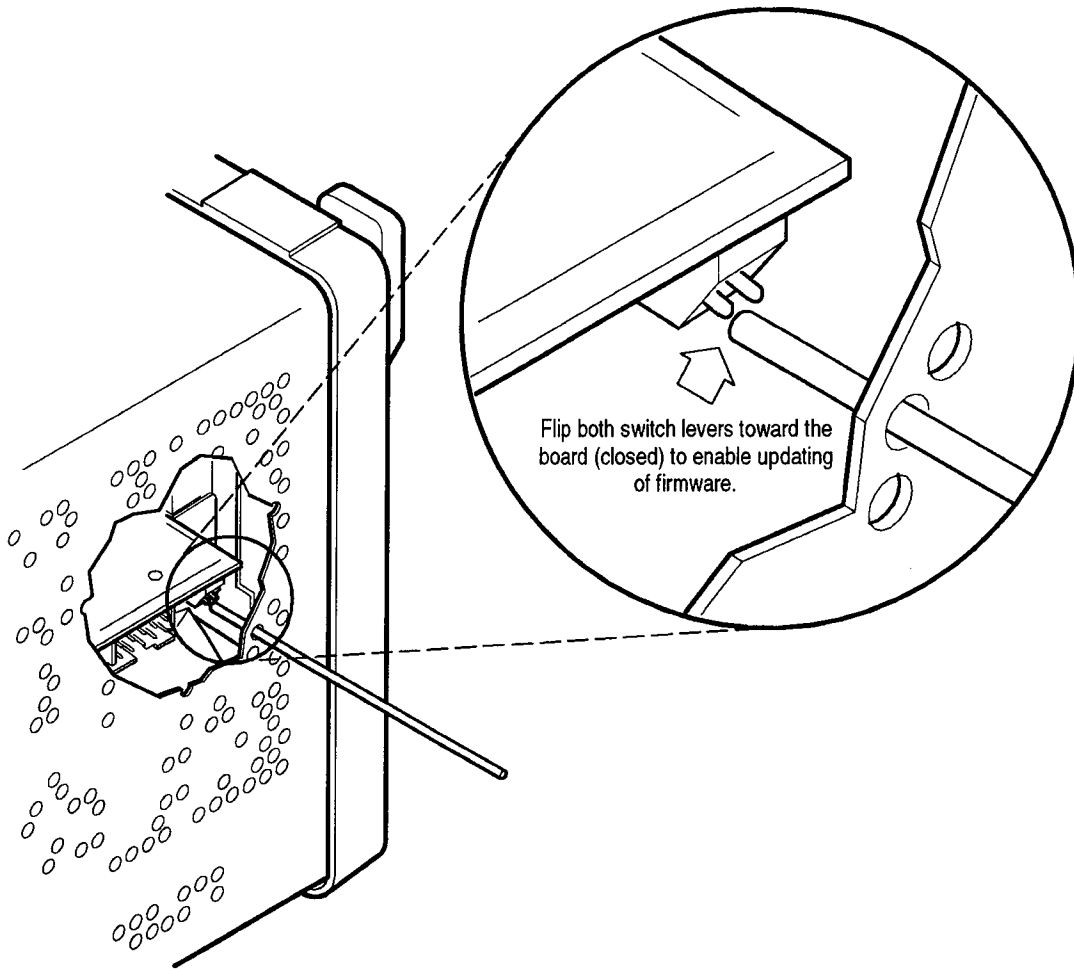

Figure 4: Accessing the Protection Switch
2. Set Protection switch to the *unprotected* position. See Figure 4 and the following *NOTE*.
NOTE. You must set both switches of the Protection switch to the *unprotected* position before updating the firmware. Figure 4 shows how to set the switch. After loading the firmware, be sure you set both switches back to the *protected* position and cycle power.